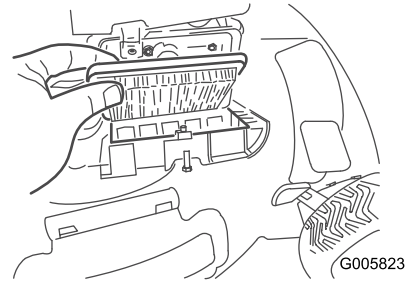

Figure 33
2. Replace the air filter (Figure 33).